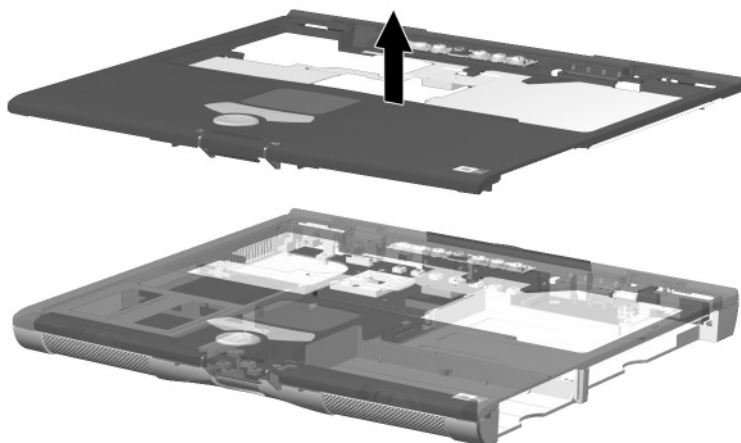

Figure 5-20. Removing the Top Cover
9. Lift the top cover straight up to remove it (Figure 5-20).